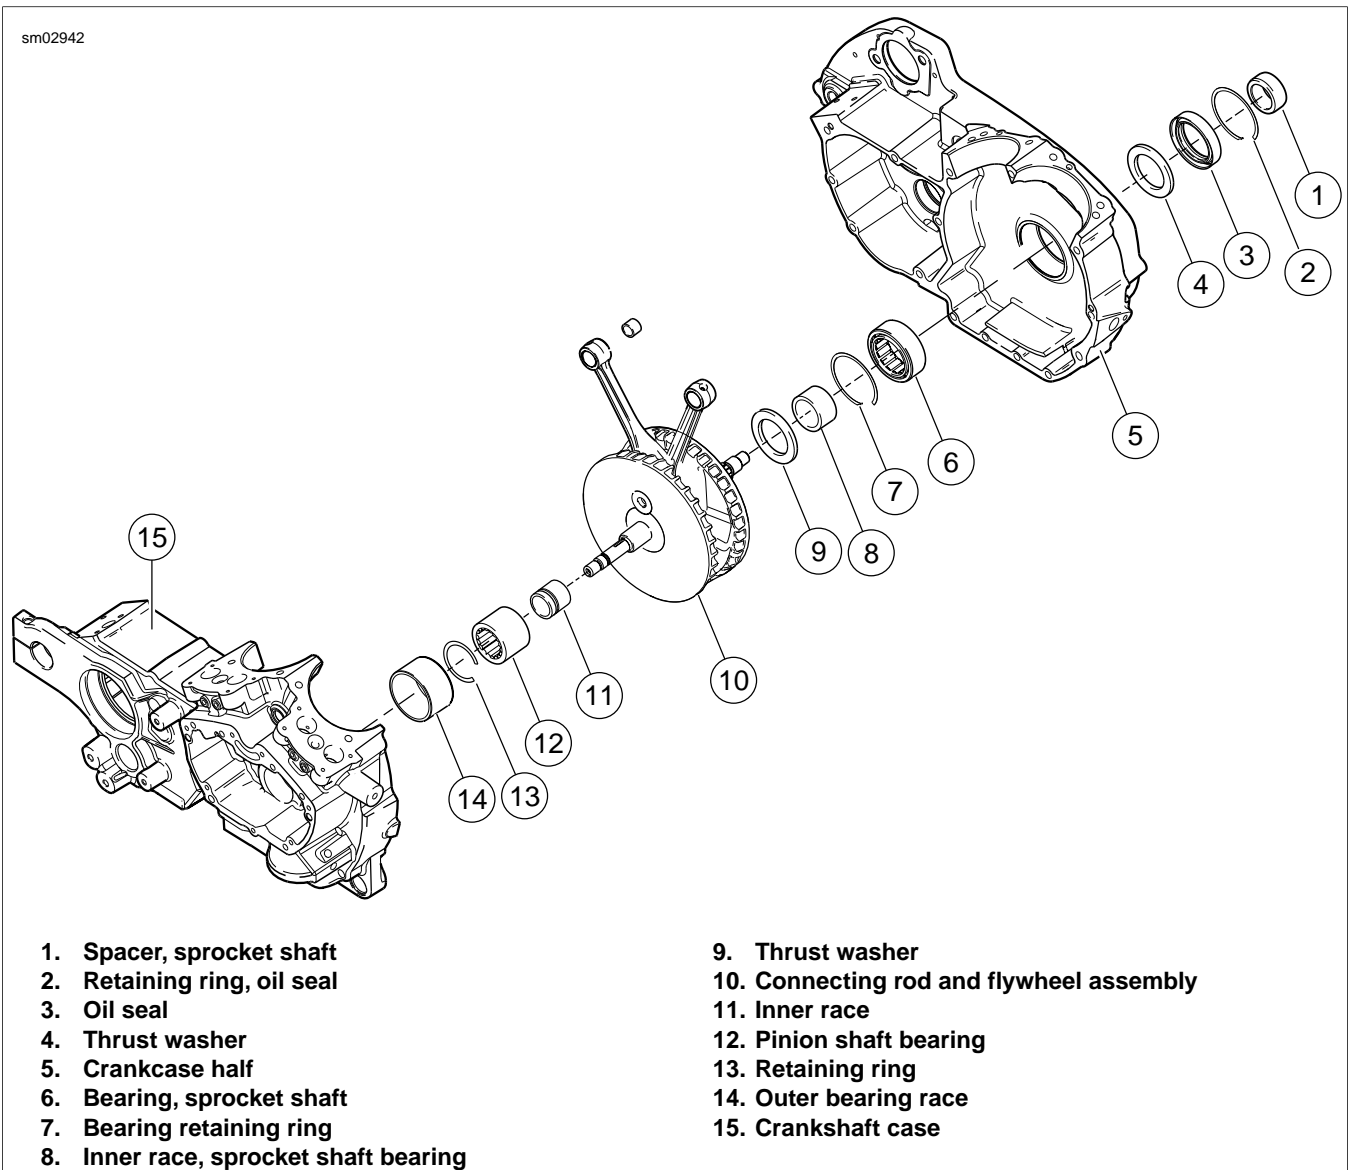

Figure 3-120. Crankcase and Flywheel Assembly
- See Figure 3-120. If it is necessary to remove either the pinion shaft bearing or sprocket shaft bearing, proceed as follows:
2. Pinion shaft bearing (12) will remain on flywheel pinion shaft. Remove retaining ring (13) and bearing can be slipped off pinion shaft.
- See Figure 3-120. Remove sprocket shaft oil seal (3) from crankcase using SNAP-ON BODY DENT PULLER (Part No. CJ114).
- Remove outer thrust washer (4) next to sprocket shaft bearing (6).
See Figure 3-120. The right side pinion shaft bearing consists of an inner and outer race with rollers.